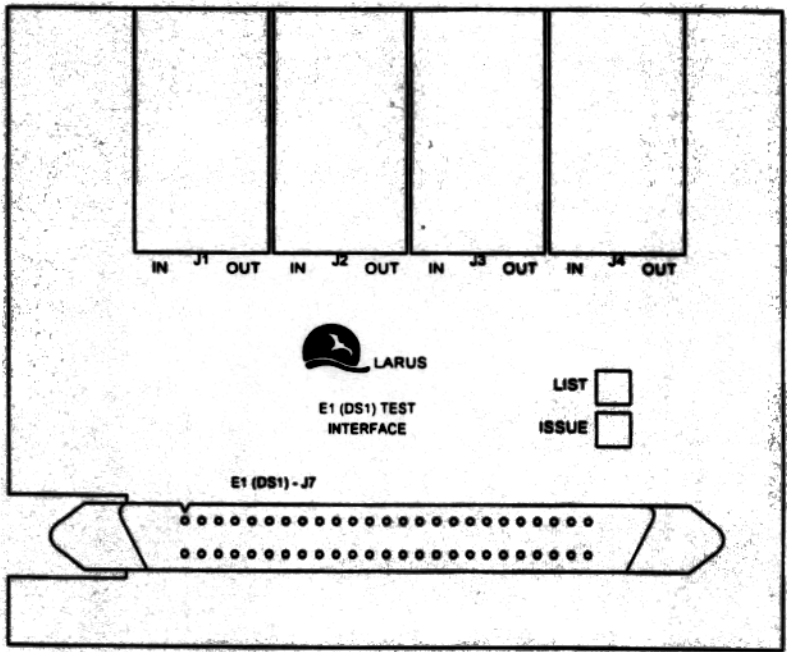

Figure 4-3. Model 9021 E1/DS1 Test Interface
2. If near-end and far-end DSX loopback is not possible, a Model 9021 E1 or DS1 Test Interface is available for testing (refer to Figure 4-3).